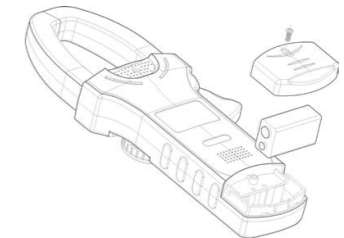

Figure 11
**B. Replacing the Battery** (See Figure 11)